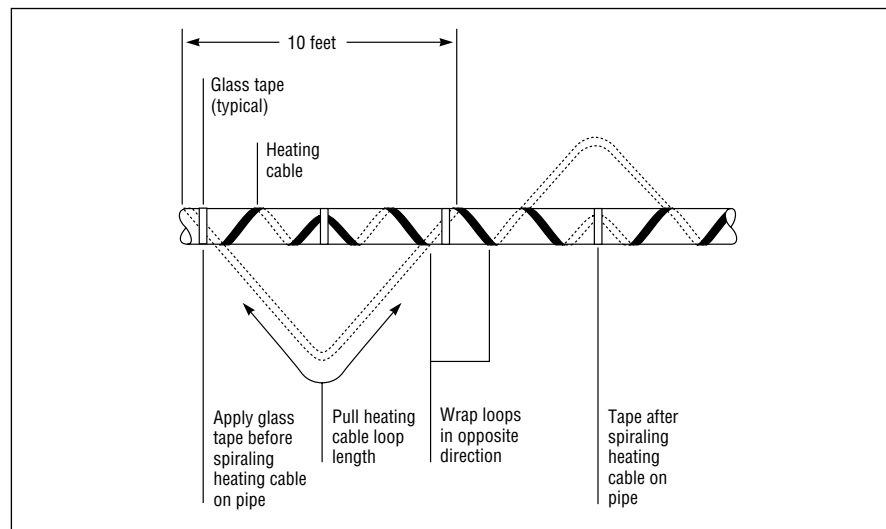

Figure 1. Spiraled heat tracing
- When the design calls for spiraling, begin by suspending a loop every 10 feet as shown in Figure 1. To determine the loop length, obtain the spiral factor from Table 1 or 2 and multiply by 10. For example, if a spiral factor of 1.3 is called for, leave a